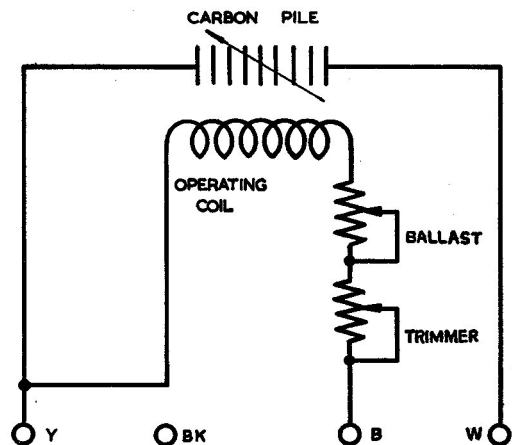

Fig. 1. Circuit diagram
3. In series with the operating coil are the ballast and trimmer resistors, which are mounted on the base. The unit is fitted with a 4-way terminal block, to which the connections are made; a circuit diagram showing the internal connections is given in fig. 1. The ballast resistor is set during manufacture, and any voltage adjustments must be made by means of the trimmer resistor.